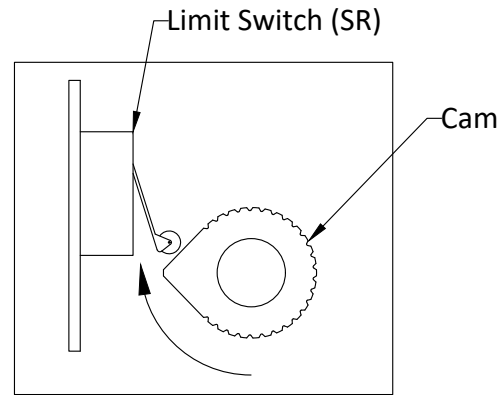

Fig. 6
6. Check whether setting is correct; for this rotate the Actuator shaft in CW direction using 'RIGHT' (R) key. Then using 'LEFT' (L) key approach the set limit and see whether SL clicks at correct position or not.
8. At this position adjust the upper cam (in the CW direction as shown in Fig. 6) such that upper switch SR clicks.